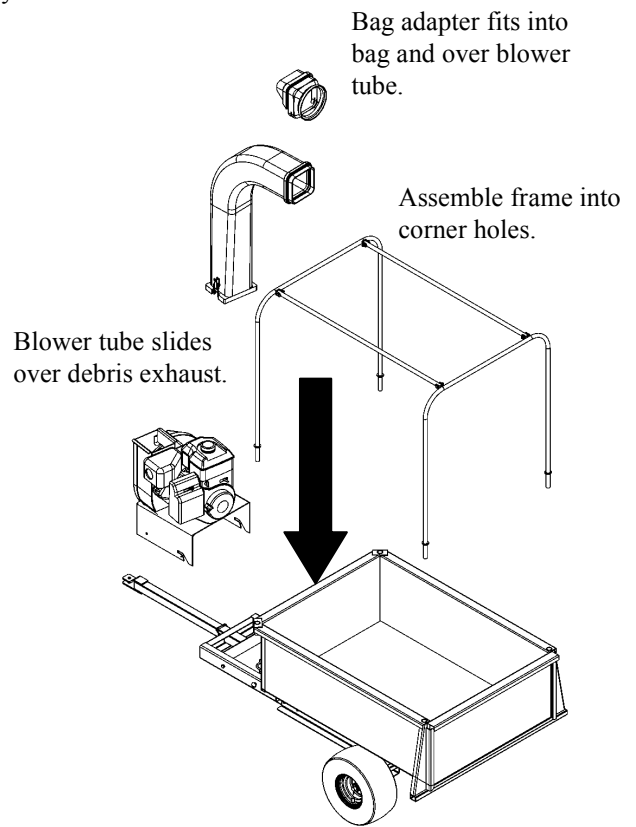

Figure 5
11. Unfold fabric bag frame and place into pockets at the corner of the bed. (Figure 5)